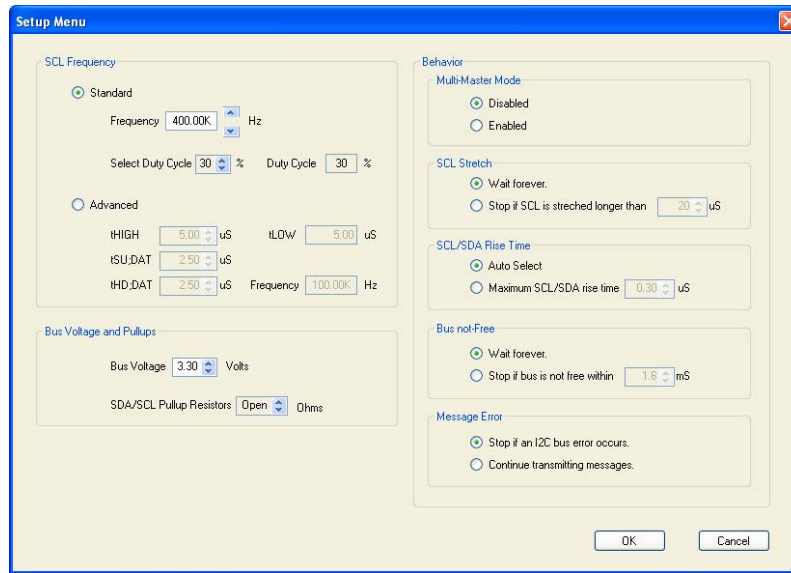

Figure 5. Setup Menu
15. The Setup menu is now displayed (See Figure 5)